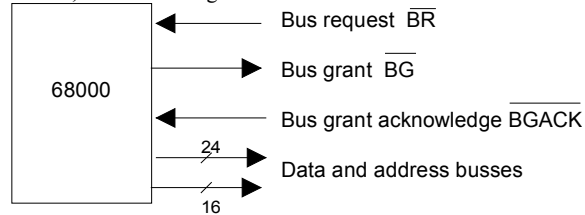

Figure 10.39 Bus arbitration signals for 68000
During refresh, the microprocessor must be prevented from accessing memory. This is achieved by using the bus arbitration signals: bus request (BR), bus-grant (BG) and bus grant acknowledge (BGACK). The way these arbitration signal work is depicted in figure 10.39 & 10.40. The DRAM refresh circuit asserts BR. After the processor finishes its current cycle, it floats the bus and surrenders it to the DRAM control circuit. It indicates this by asserting the BG signal. DRAM refresh circuit then asserts BGACK signal while it is controlling the bus. When it relinquishes control of the bus back to the 68000, BGACK is negated.